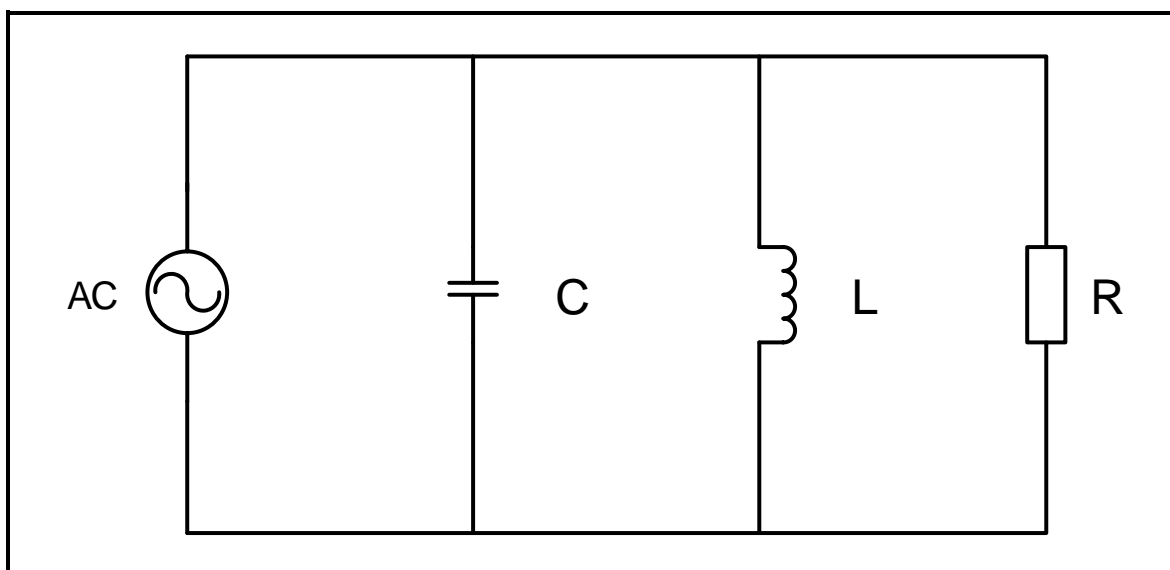

FIGURE 3.4 A: PARALLEL RESONANT CIRCUIT
- 3.4 Refer to FIGURE 3.4 A and FIGURE 3.4 B below to answer the questions that follow.